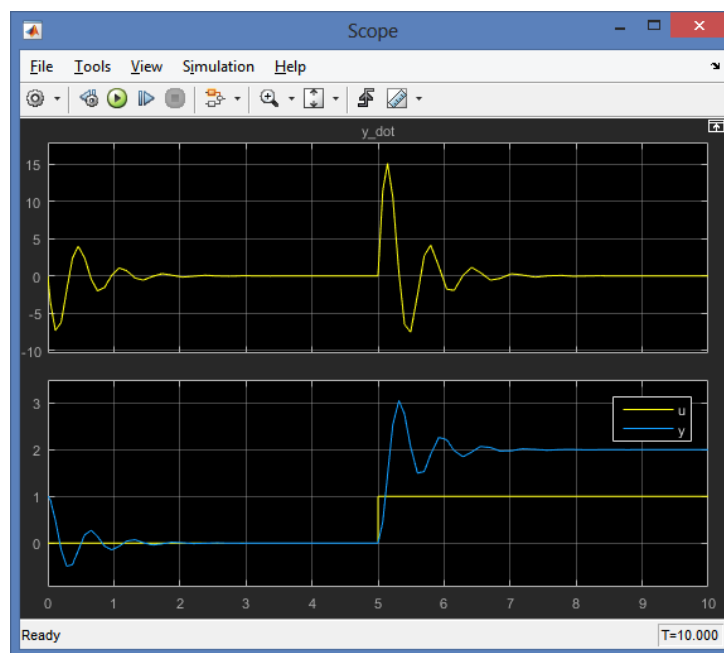

Figure 1-4: Simulation result
- (9) Now the system is built up. Click the  button or hit `Ctrl+T` to run the simulation. The scope should then display the simulation results as can be seen in Figure 1-4.
- (10) When looking at the plots, one can see that they are not very smooth. The solver, which is automatically chosen by Simulink in the default setting, obviously takes rather large time-steps when applying the numerical integration scheme.